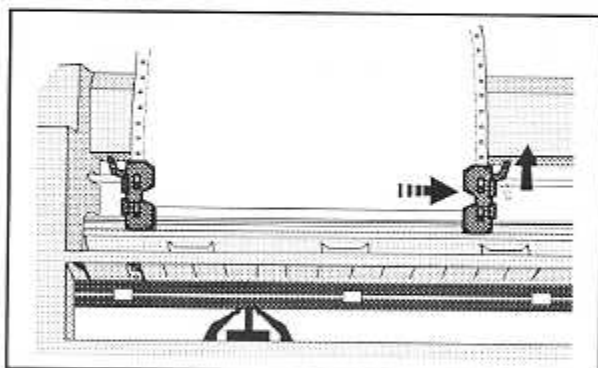

Figure 3-8. Making Sure the Paper is Taut
7. Slide the right tractor as needed to make the paper just slightly taut between the tractors, as shown in figure 3-8. Then, lock the right tractor into place.